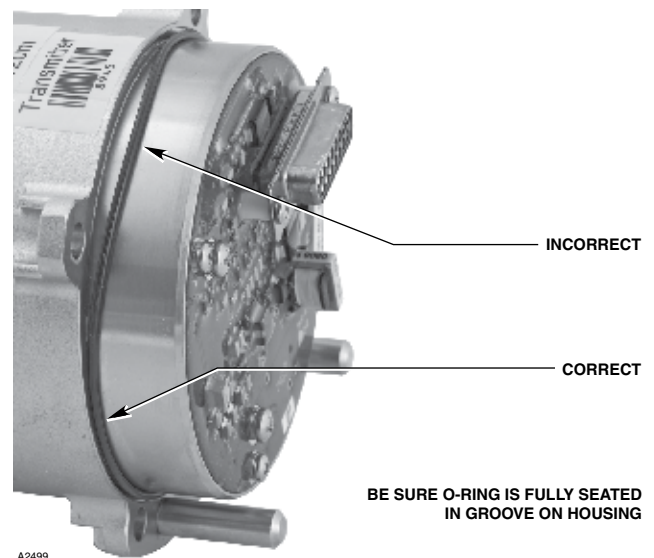

Figure 23—O-Ring on OPECL Module
4. Ensure that the o-ring on the replacement module is present, undamaged, and correctly seated in the groove on the housing. See Figure 23. This o-ring is required to maintain the watertight integrity of the OPECL housing.